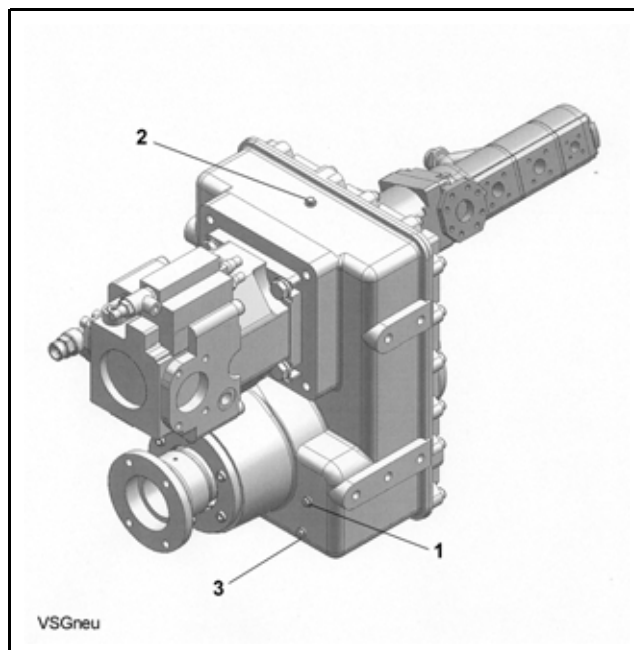

Fig. 321 Distribution manual transmission gear
- Unscrew the inspection plug (1) (**Fig. 321**).
- If necessary, top up oil through the filling and breather screw (2) until it overflows at (1).
- Wash screw (2) with fuel and blow out with compressed air.
- Unscrew drain plug (3); close after emptying.